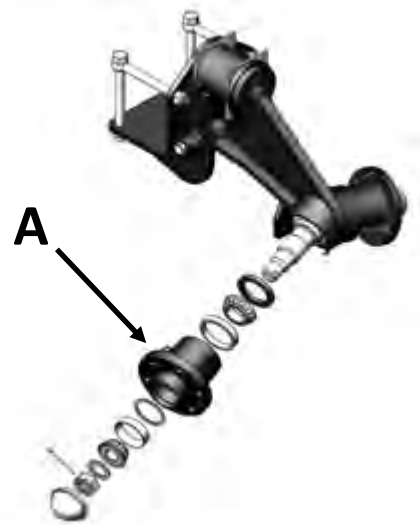

Figure 11-4: Hub
Lifter strut hubs (A), shown in Figure 11-4, must have the following service every 400 acres (or sooner in severe conditions). Re-pack with grease, check seals, ret-torque spindle nuts, and check for movement in lifter wheel bearing.